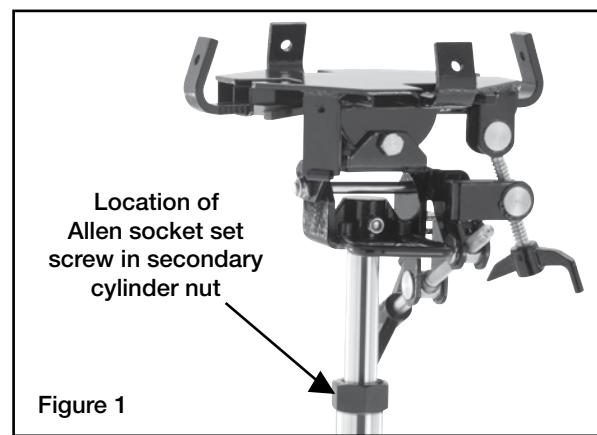

Figure 1
- c. If the secondary ram seems to be spongy or does not pump up normally, insert an Allen wrench in the small Allen socket set screw in the side of the secondary cylinder nut. (See Figure 1) Slightly turn the set screw in a counterclockwise direction while lightly depressing the pump pedal. This procedure is similar to bleeding air out of an automotive brake line. Repeat the procedure until there are no bubbles in the oil that escapes from behind the Allen socket set screw.